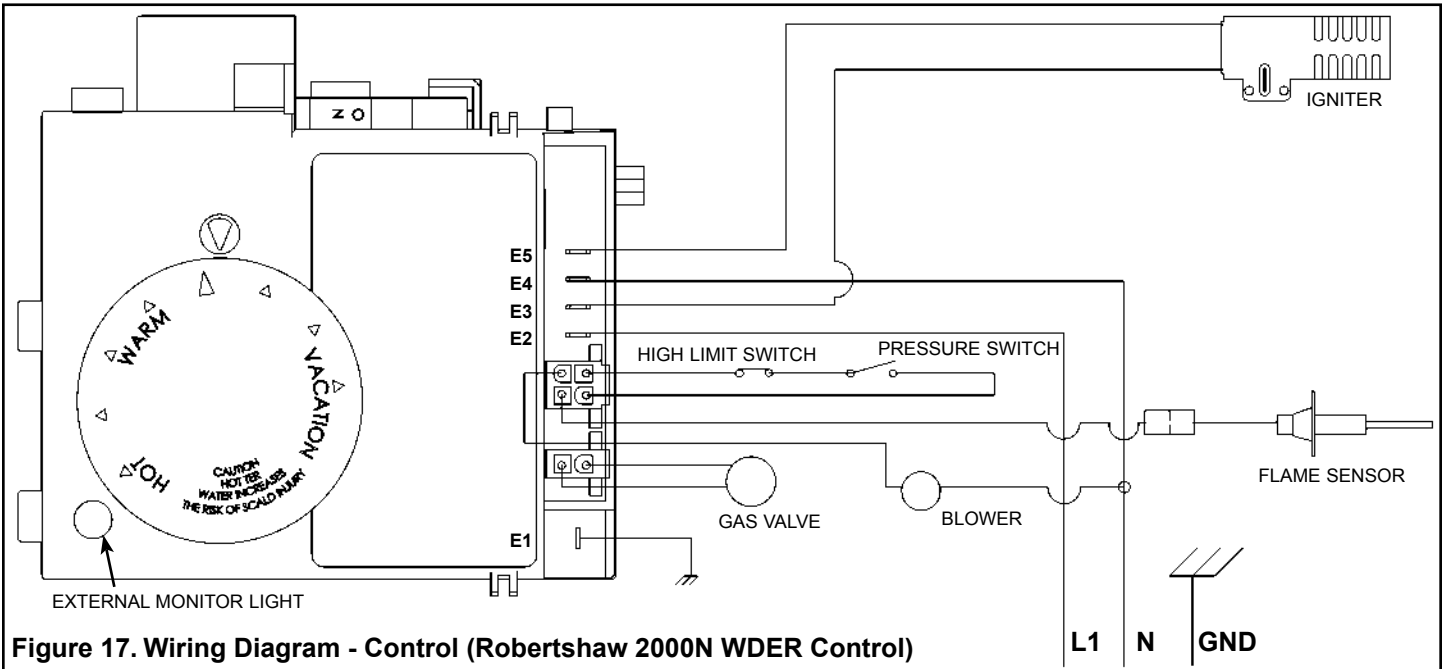

Figure 17. Wiring Diagram - Control (Robertshaw 2000N WDER Control)
**Important:** The electrical controls used inside the gas control/thermostat mounted on this water heater are **polarity sensitive**. Ensure the electrical supply is connected correctly in the receptacle box. Failure to connect correctly will prevent the unit from functioning properly (see Figure 15 & Figure 17). Before performing any electrical service work, label all wires to avoid connection errors. If wiring has to be replaced, use only **TYPE TEW 105C** wire, except igniter wires. If there is a problem with igniter wires, replace igniter assembly in its entirety. In locations where a sump pump failure, flooding or exposure to water may be present, a ground fault receptacle is recommended.